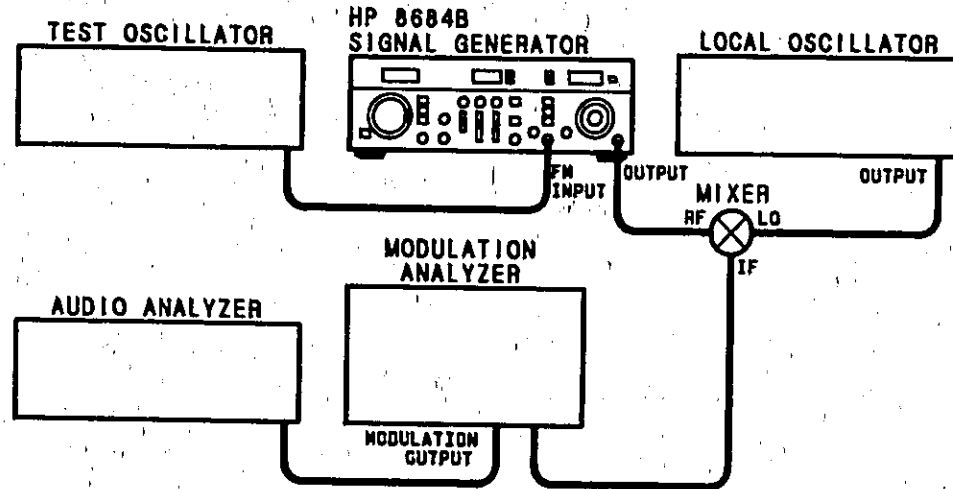

Figure 4-10. FM Distortion Test Setup
13. Connect equipment as shown in Figure 4-10, and set Signal Generator under test to 8 GHz with an output level of 0 dBm or higher.